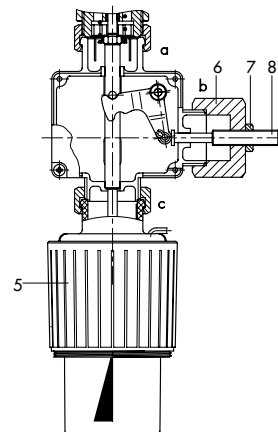

Fig. 4 · Double adapter Do3 K, Type 2430 K Thermostat and manual adjuster
**Double adapter Do3 K with Manual adjuster** (Fig. 4) · To manually close the valve or to limit its travel · Connection "c" for thermostat, connection "b" for manual adjuster.
The **double adapter** is mounted to the temperature regulator between the control valve (1) and control thermostat (5). Additional control thermostats can be mounted to connections "b" and "c" (Fig. 4). The manual adjuster is attached at the connection "b".
The travel of the mounted unit acts directly (connection "c") or via the lever (3) (connection "b") on the coupling pin (4). This pin moves the plug stem (2) and the plug. The plug stem is coupled to the unit which has the largest travel. The manual adjuster (Fig. 4) limits the travel.